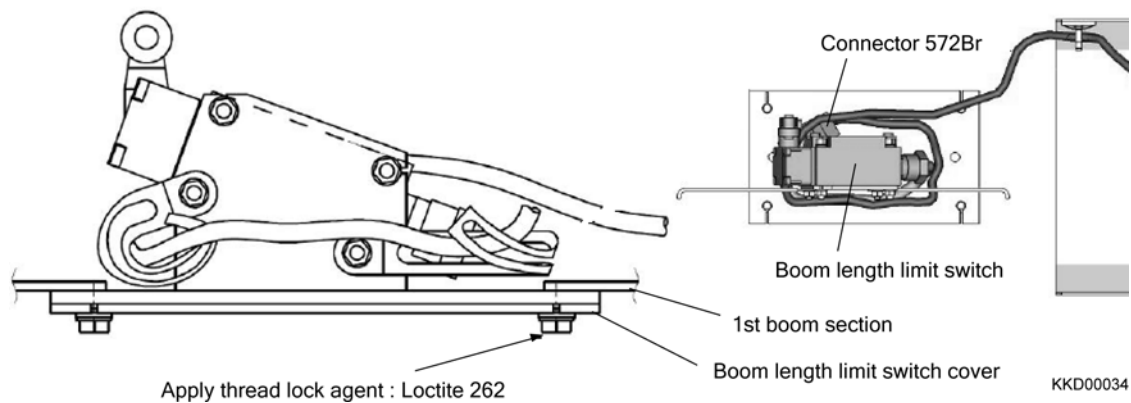

Fig. 2-64
13) Connect the cable for Boom length limit switch (Connector 572Br), Set the cable as shown in Fig. 2-64 to prevent the cable from interference with bottom of 2nd boom section and then install the boom length limit switch cover